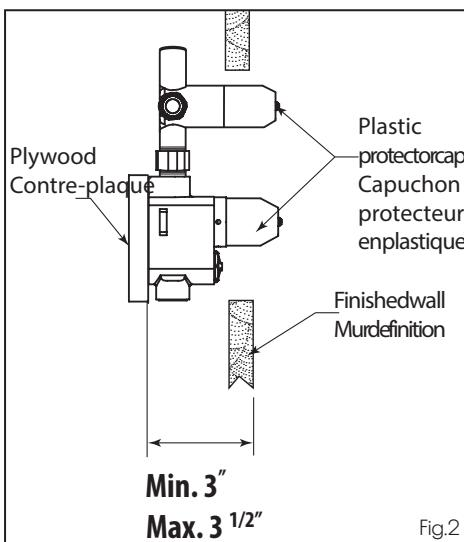

Fig.2
**! TO ENSURE PROPER INSTALLATION OF THE VALVE INSIDE THE WALL, IT IS VERY IMPORTANT TO FOLLOW THE RECOMMENDED DEPTH AS INDICATED IN THE ILLUSTRATION (Fig.2).**
**AFIN D'OBTENIR UNE INSTALLATION CORRECTE DE LA VALVE, IL EST IMPORTANT DE RESPECTER LA PROFONDEUR SUGGÉRÉE TEL QU'ILLUSTRÉ (Fig.2).**